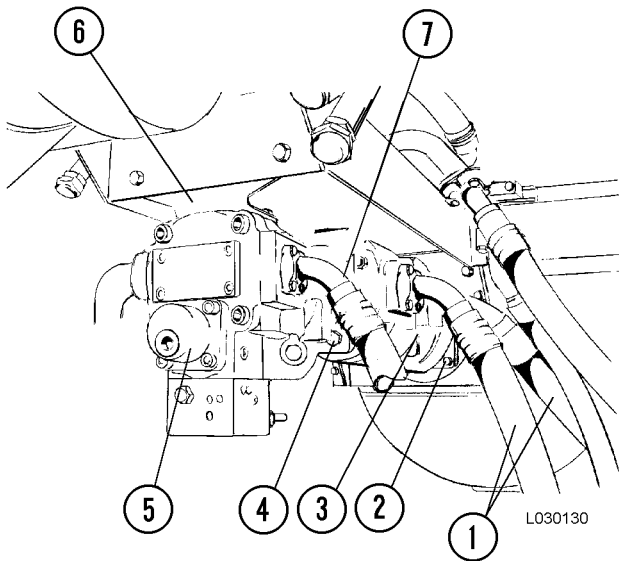
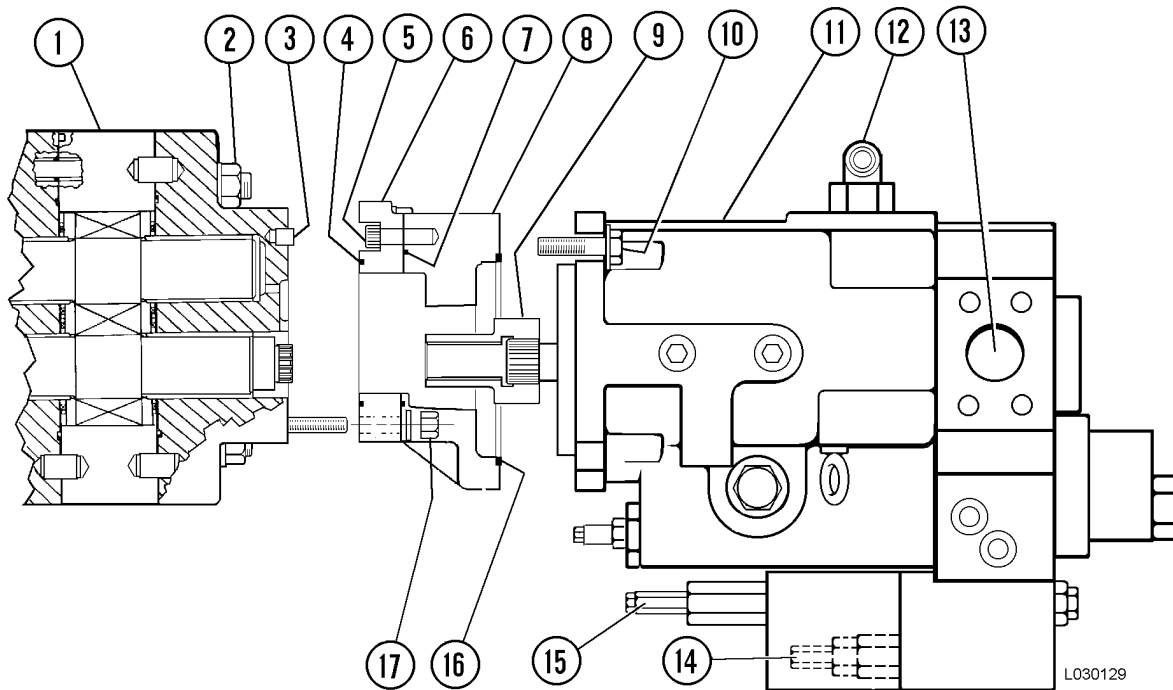

FIGURE 3-2. HYDRAULIC PUMP
FIGURE 3-3. STEERING/BRAKE PUMP REMOVAL
5. Loosen the capscrews securing the inlet and outlet hoses (1, Figure 3-2) on the hoist pump and allow oil to drain. Remove inlet and outlet hoses. Cap or cover all lines and pump inlets and outlets to prevent contamination.
8. Remove four capscrews (2, Figure 3-2) that secure the hoist pump to the front support bracket. Remove the six capscrews that hold support bracket (6) to the pump module support. Remove support bracket.
10. Remove four steering/brake pump mounting capscrews (4). Slide the hoist pump forward to disengage the splines of drive coupling (9, Figure 3-3) from the steering pump.
1. Install O-ring (16, Figure 3-3) to steering pump (11). Install coupler (9) to hoist pump.
3. Lubricate the steering pump spline shaft and align it with coupling (9). Install the hoist pump onto the steering pump. Install capscrews (10) with hardened washers and tighten the capscrews to standard torque. Raise the pumps up into position.
6. Tighten the capscrews for steering pump support bracket (6, Figure 3-2) to standard torque.
1. Thoroughly clean the exterior of the pump assembly. If the steering pump is attached, remove capscrews (10, Figure 3-3) and pull the steering pump free of transition plate (8). Remove O-ring (16).
2. Remove and inspect coupling (9). Remove and discard the internal snap ring, if installed. Remove dowels (3) if damaged or if replacement of the bearing plate is necessary.
4. Remove nuts (17, Figure 3-3). Remove bearing plate (20, Figure 3-4) with transition plate (22) and O-ring (26). Remove the capscrews that secure the bearing plate to the transition plate. Remove O-ring (23). Remove the dowels if damaged or if replacement of the transition plate is necessary.